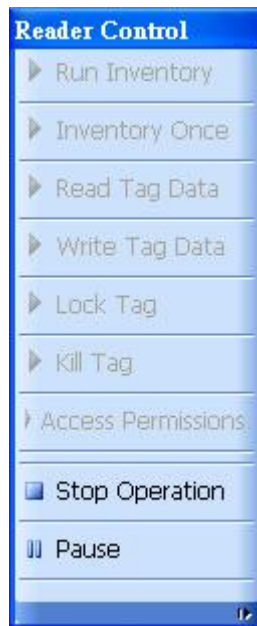

Figure 13 Stop Operation
Step1: Click “Stop Operation” in Control Panel, as shown in Figure 13.